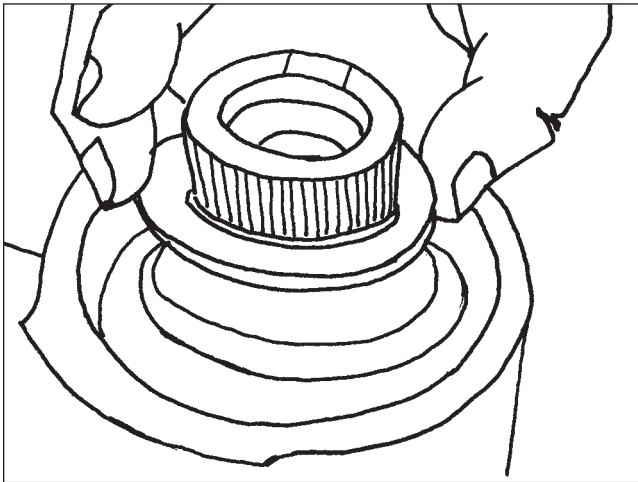

Figure 84
1. Remove the rubber sector shaft boot (Figure 84).